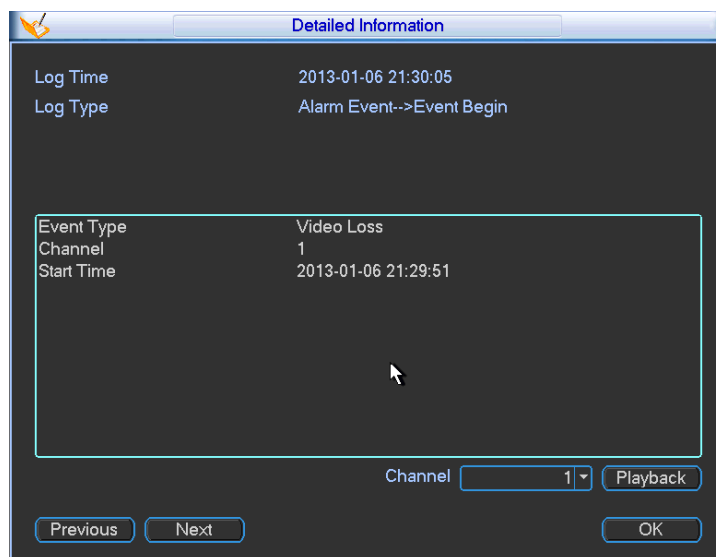

Figure 4-13
- Details: Click the Details button or double click the log item, you can view the detailed information. See Figure 4-13. Here you can use rolling bar to view information, or you can use Page up/Page down to view other log information. For the alarm event log such as video loss, you can click the Playback button at the bottom right corner to playback.